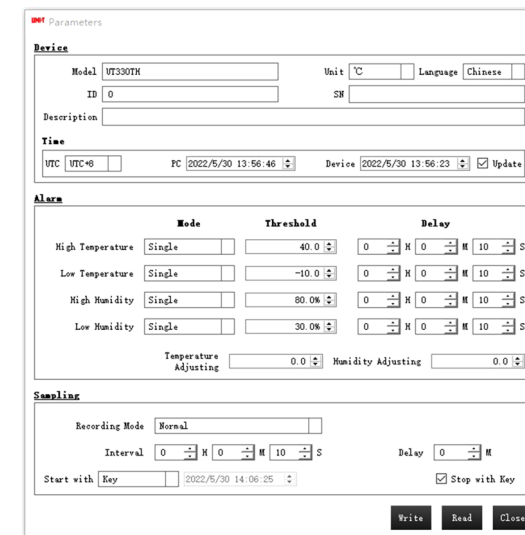

Figure 3
- Insert the logger into USB port of PC, the main interface of logger will display "USB". After the computer identifies the USB, open the software to set parameters and analyze the data. (Figure 3).